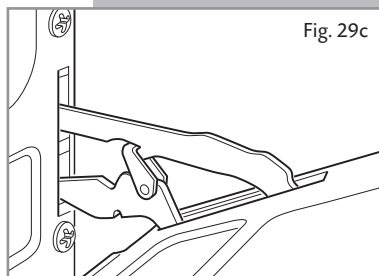

Fig. 29c
- Lift the oven door slightly. The notch on the bottom of the hinge will disengage (fig. 29c).